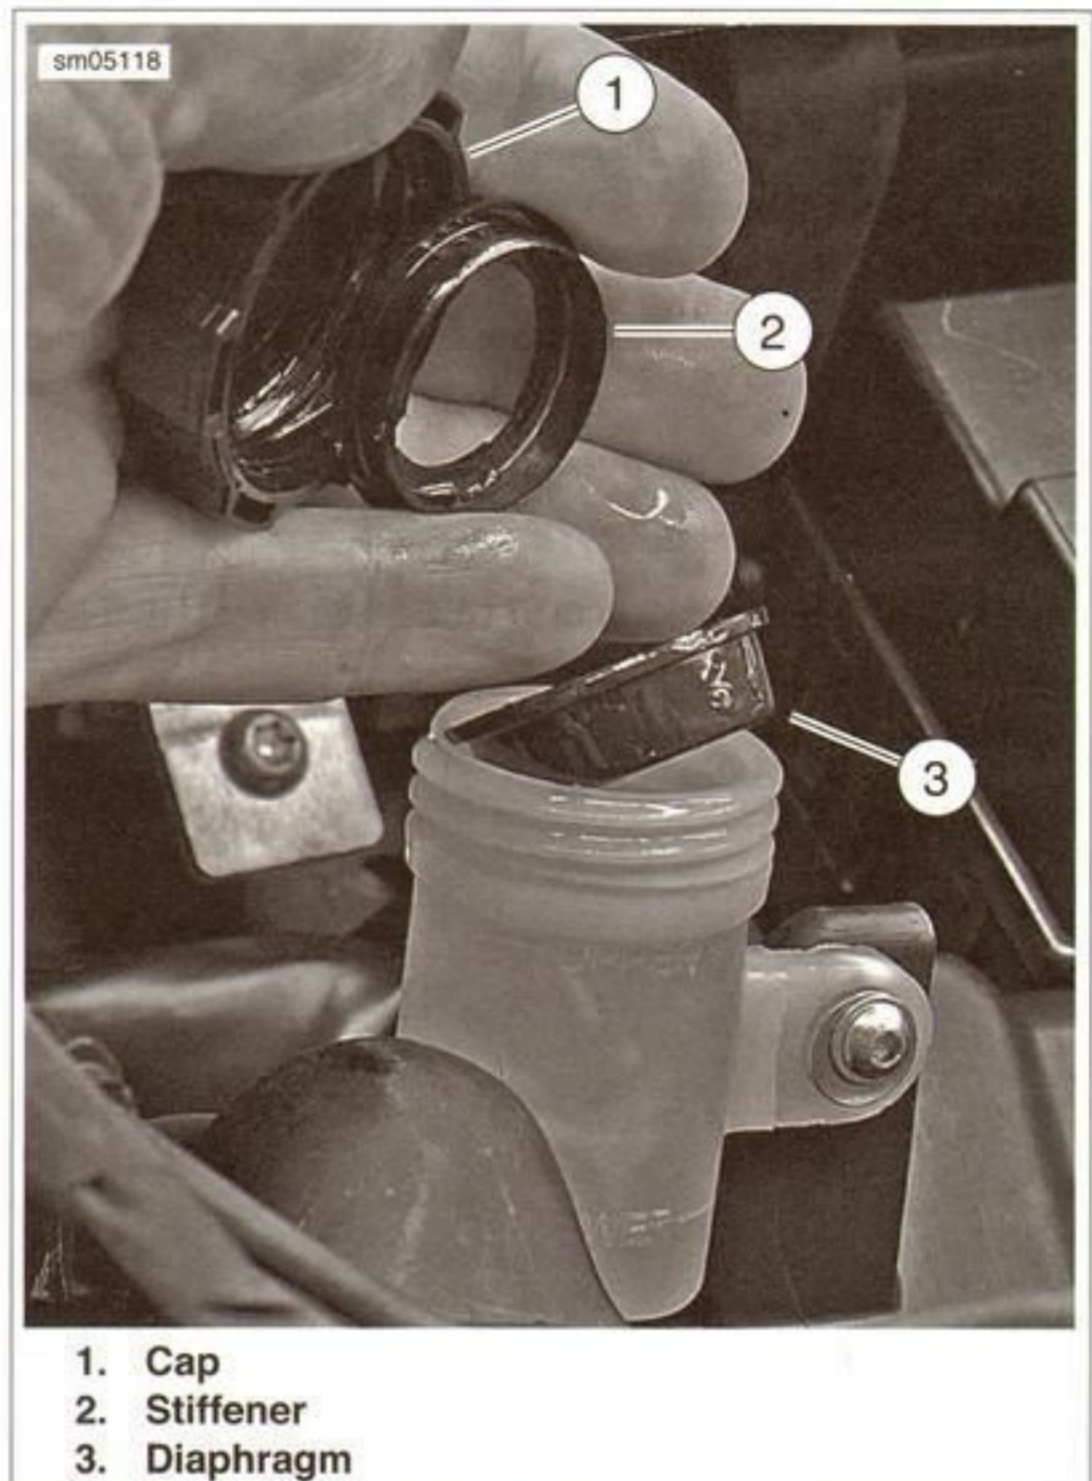

Figure 1-24. Rear Brake Fluid Reservoir
3. See Figure 1-24. Unscrew cap from rear brake reservoir and remove the cap (1), stiffener (2) and diaphragm (3).